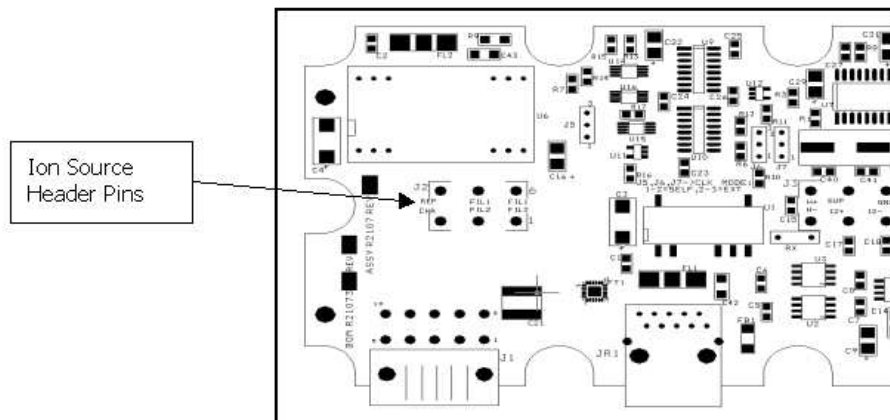

Figure 11: Ion Source Header Pin Schematic
25. On the PCB, use the resistance meter to verify an open circuit between any two of the six ion source header pins (except FIL-1 to FIL-1 and FIL-2 to FIL-2 which should be 0.3 Ohms or less). Also verify an open circuit between the body of the spectrometer and any of the ion source header pins (Figure 11: Ion Source Header Pin Schematic). If there is continuity (short circuit) at any of the points, remove the header and inspect for shorting.